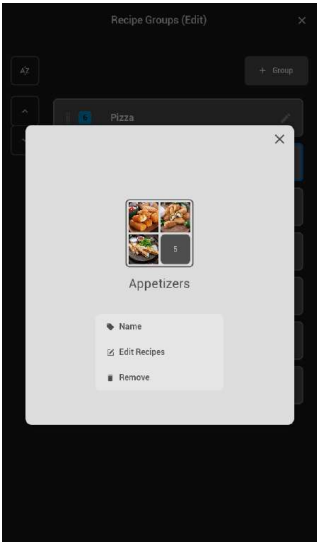

Figure 21: Edit Group Options
- 2. Select an option (Figure 21).